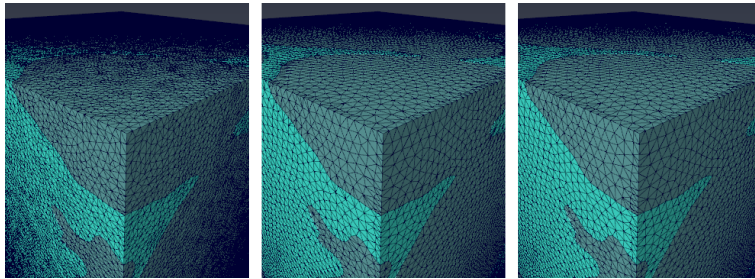

Figure 7.27: From left to right: initial surface, fix contours remeshing, remeshing around contours only.
- Run the remesher (see Figure 7.27).